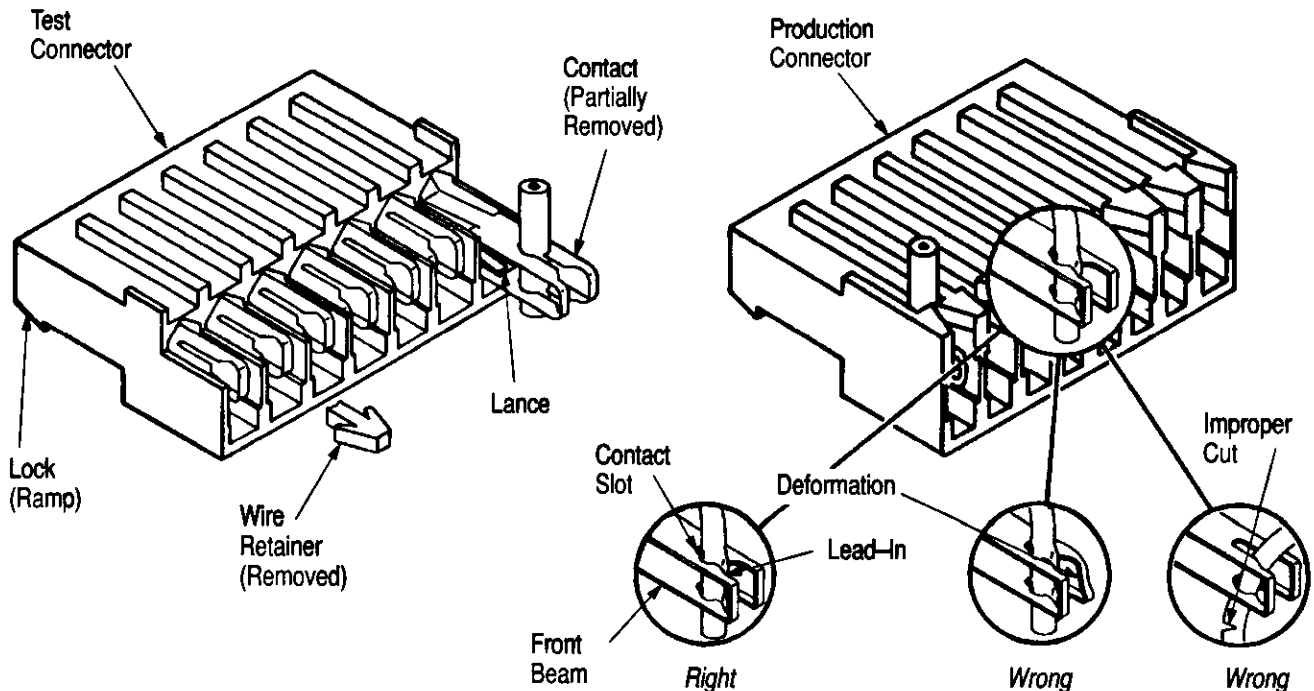

Figure 4
5. Inspect the termination according to Figure 4 and AMP Application Specification 114-1020.
5. Inspect terminations according to Figure 4 and AMP Application Specification 114-1020.